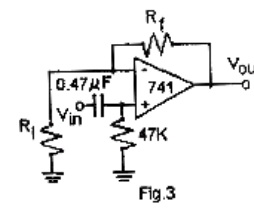

Fig.3
a. Realise the noninverting amplifier shown in Fig.3. Use $R_i=10K\Omega$, $R_f=10K\Omega$. Apply a 1V_{pp}, 10KHz input. Measure the gain and compare this with your calculations. Do this for $R_f=27K\Omega$, $47K\Omega$ and $100K\Omega$ as well. Make a table comparing experimental value for the gain and the computed values. Can you tell from what you see on the oscilloscope whether or not the output is inverted? Calculate the reactance of the capacitor at 10KHz. Is it necessary to include this in your gain calculations?
b. **Frequency Response:** Measure the gain A_f of the circuit in Fig.3 from 1 to 100KHz in convenient steps (say 10KHz), for $R_f=27K\Omega$, $47K\Omega$ and $100K\Omega$, keeping $R_i=10K\Omega$. You should notice that the high gain circuit begins to roll off sooner than the lower gain circuit. Determine the bandwidth and then the gainxbandwidth product in each case. The gain with feedback resistor R_f is given by $A_f = A_0 / (1 + \beta A_0)$ where $\beta = R_i / (R_i + R_f)$. Use your data to calculate A_0 .